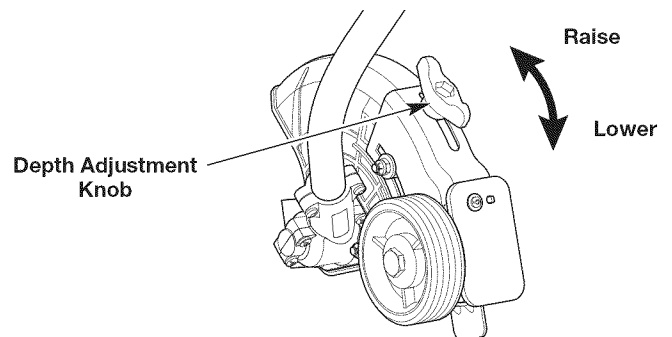

Fig. 6
3. Loosen the depth adjustment knob (Fig. 6).